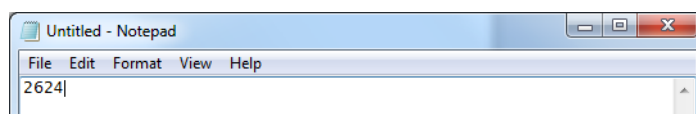

Figure 1-1 • Entering Factorial Values in Notepad
1. Open the notepad and enter the factorial of number 2,3,4 as 2,6,24 as shown in Figure 1-1.